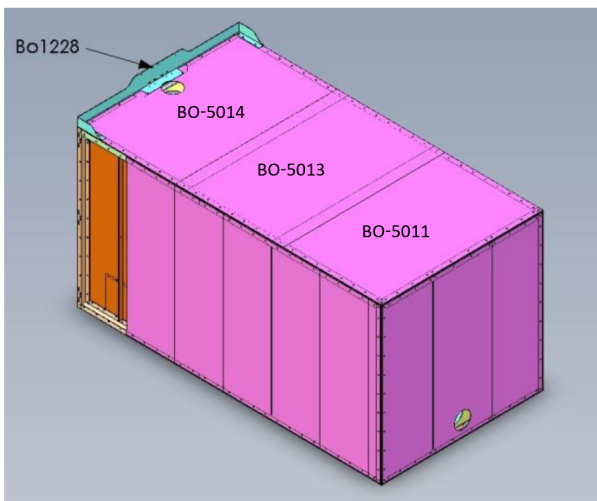

Figure 21
20) Now bolt BO-1221 to the top of the oven. **See figure 21.**